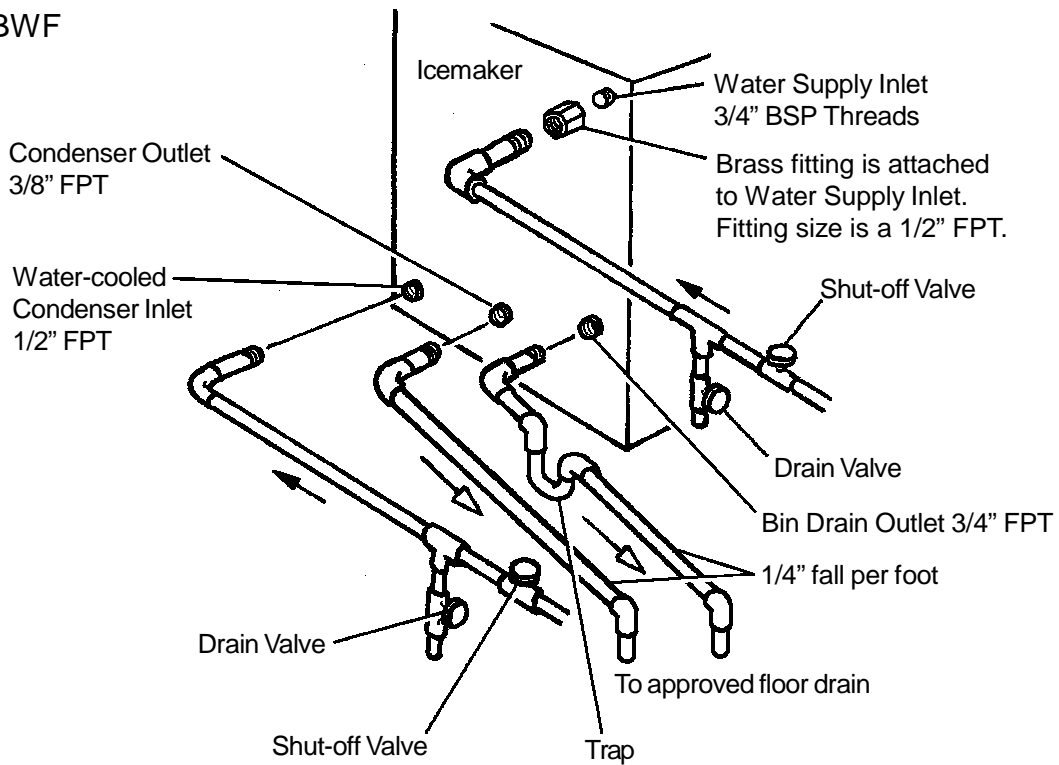

Fig. 4
* The brass fitting is attached as shown in Fig. 4. The fitting size is a 1/2" FPT and must be connected only to a potable water supply.